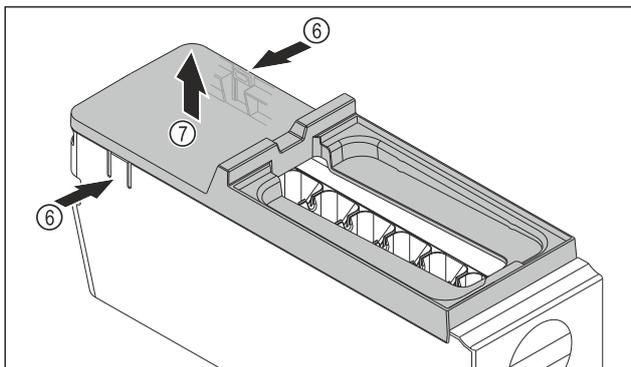

Fig. 113
- ▶ Removing the EasyTwist-Ice body cover: Push the tabs Fig. 113 (6) on both sides of the EasyTwist-Ice body with one hand.
- ▶ Use the other hand to remove the cover Fig. 113 (7) upwards.